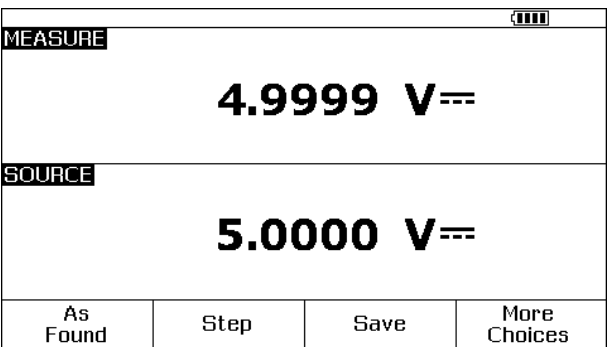

Figure 3. Measure/Source Example
6. Push **MEASURE SOURCE** to go to the split-screen, simultaneous MEASURE/SOURCE mode. The Product simultaneously sources dc volts and measures dc volts. The measurement readings are shown on the top display, and the active source value on the bottom display as shown in Figure 3.